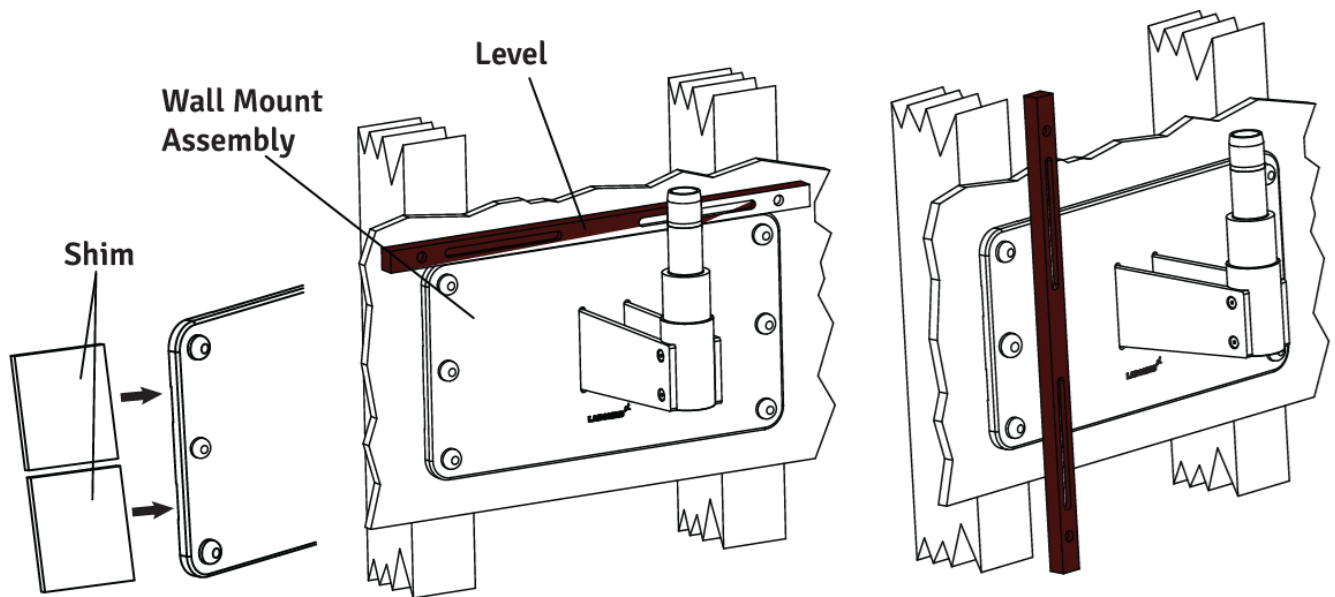

Fig. 21
2. Place a level across the top of the back plate to check the horizontal levelling. See Figure 21.
5. Place a level vertically along the face of the wall Mount, on both sides, to ensure it is perpendicular to the floor. See Figure 21.